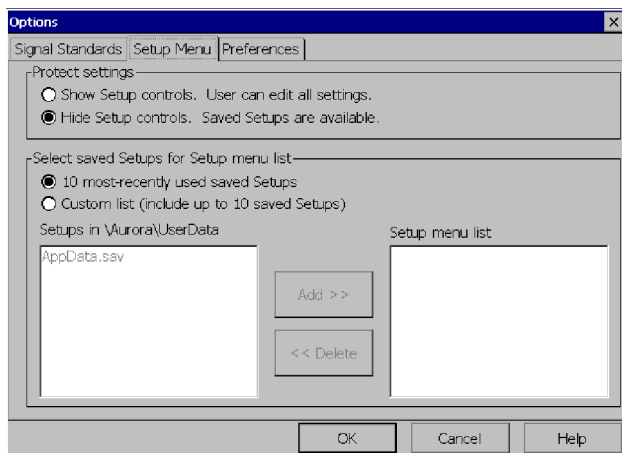

Figure 3-75: Protecting Setup Controls
2. Tap the **Setup Menu** tab. See Figure 3-75.
2. Select the **Setup Menu** tab. See Figure 3-75.